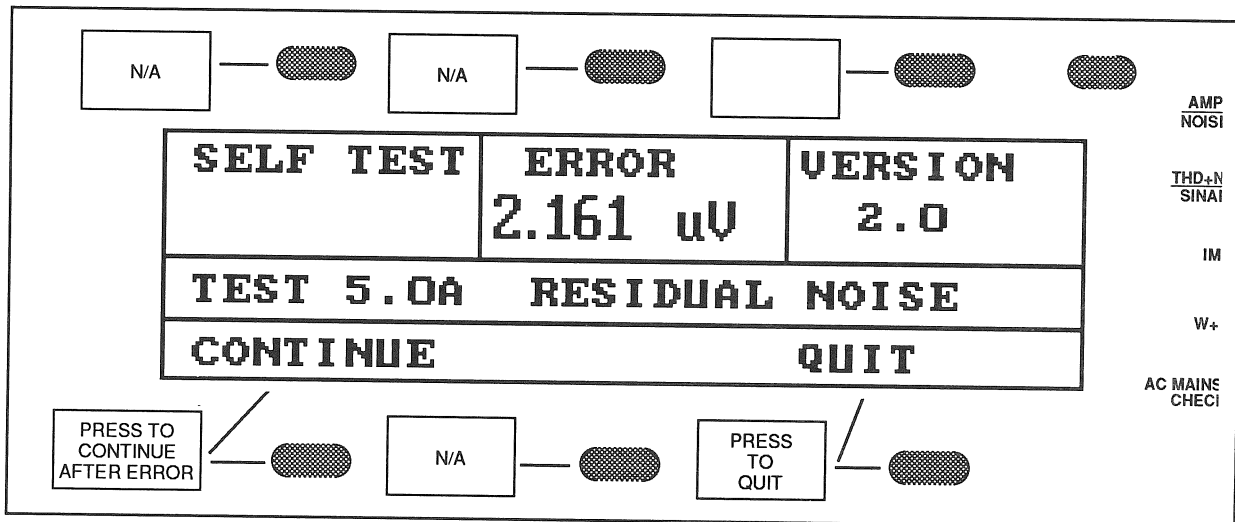
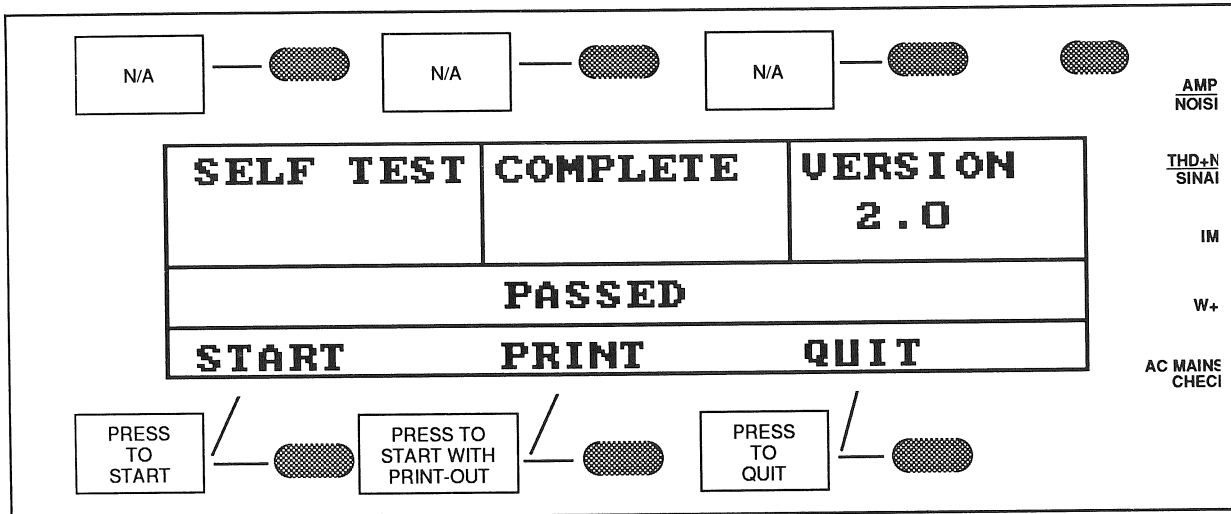
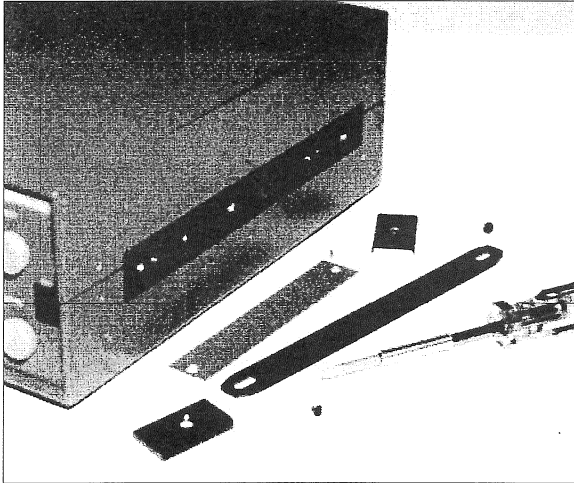

Figure 3-5 Typical Display, Self Test Mode Paused to Display Error
Figure 3-6 Typical Display, End of Self Test Where All Tests Passed
Figure 3-7 Handle Parts After Removal
After removing any cables connected to the generator, press either the lower left soft key now labeled START or (if an Epson-compatible printer is connected to the rear-panel printer port) the lower center soft key labeled PRINT. In either case, the system will go into an automatic sequence of functional checks, with each measurement being internally compared to specifications; see Figure 3-5 for an example. If a printer is connected and the self test was started with the center PRINT key, the test results including test number, description, upper and lower limits, measured result, and a PASS or FAIL statement will print for each step. The step number and name of the test are displayed across the center of the display. The self test may be interrupted by pressing any button except INVERT. If any limit is exceeded, the test will display the out-of-spec reading and pause until the CONTINUE button is pressed; see Figure 3-6 for an example failure display. At the end of the series of tests, a final screen will display with a passed indication if all steps of all tests passed. A failed indication results if any one or more steps failed. See Figure 3-7 for an example of the "passed" condition. To exit from self test mode, press the QUIT button.
1. Remove the handle, handle brackets, bracket spacers (2) and the trim panel from the right side of the instrument (see Figure 3-7).